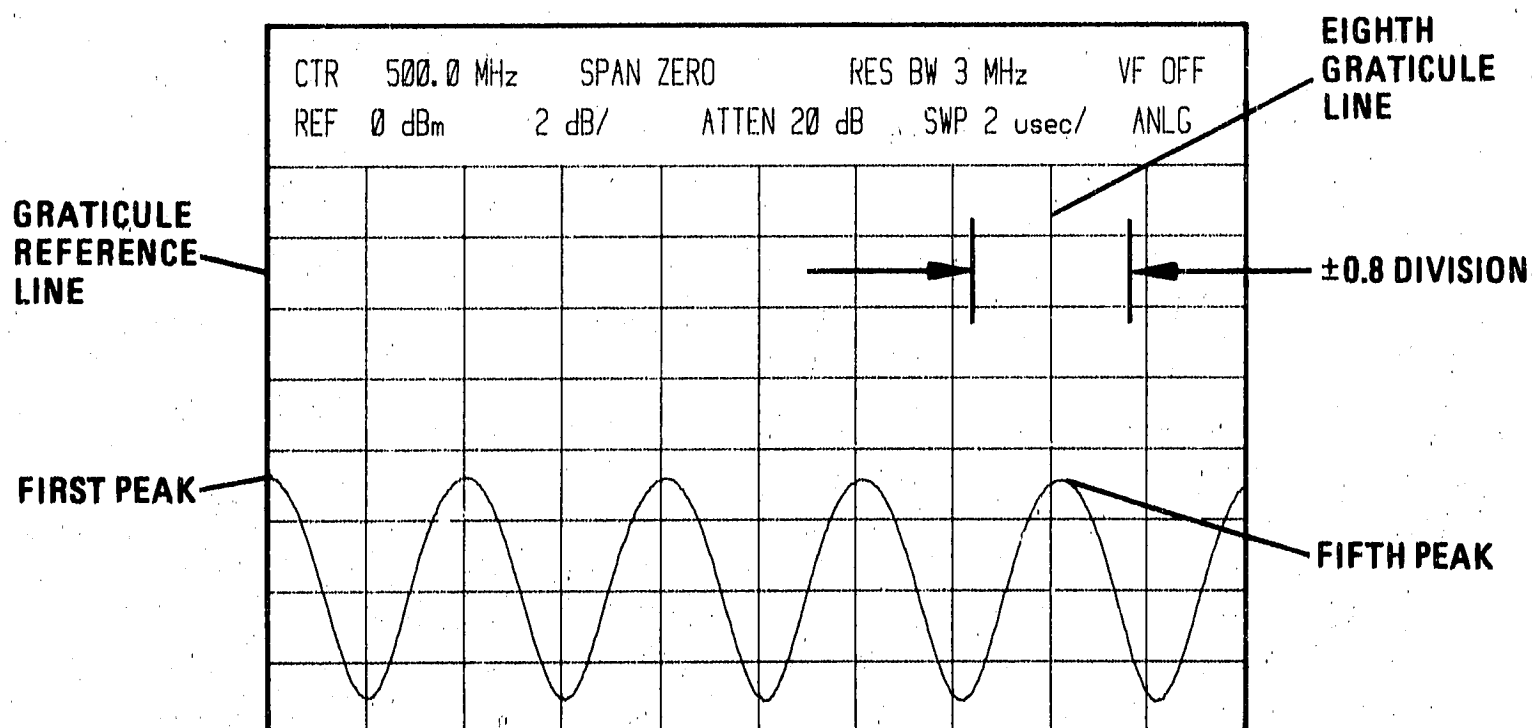

Figure 4-22. Sweep Time Accuracy,  $2 \mu\text{SEC}/\text{DIV}$
9. Adjust TRIGGER LEVEL of analyzer to place a peak of sine wave on graticule reference line (left-most graticule line). Fifth peak from reference should be within  $\pm 0.8$  division of eighth graticule line. (See Figure 4-22.)